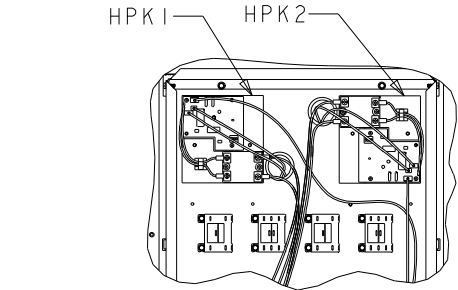

FIGURE 1
- ROUTE WIRES THROUGH BUSHINGS NEXT TO THE CONTROL BOARD MOUNTING LOCATIONS INSIDE THE CONTROL BOX. SEE FIG. 1
- CONNECT WIRE 68Z (BL) FROM RTRM J1-7 TO LTBI-B TO DISABLE THE RELIATEL SOFTWARE LOW AMBIENT FUNCTION. WIRE IS PROVIDED IN THE KIT.